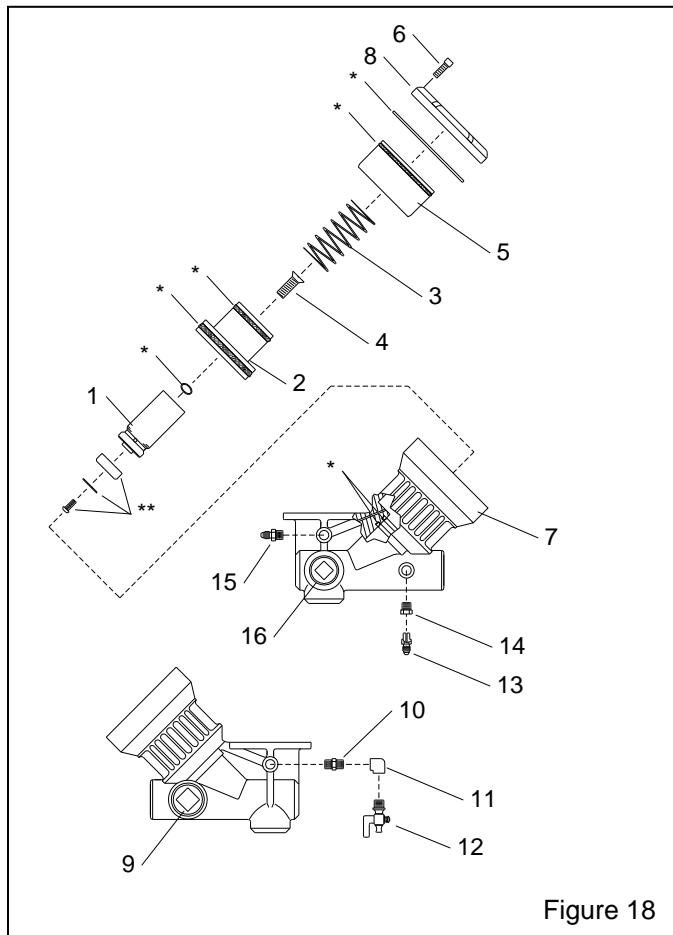

Figure 18
8.6 Millennium Valve, Inlet Segment, Figure 18